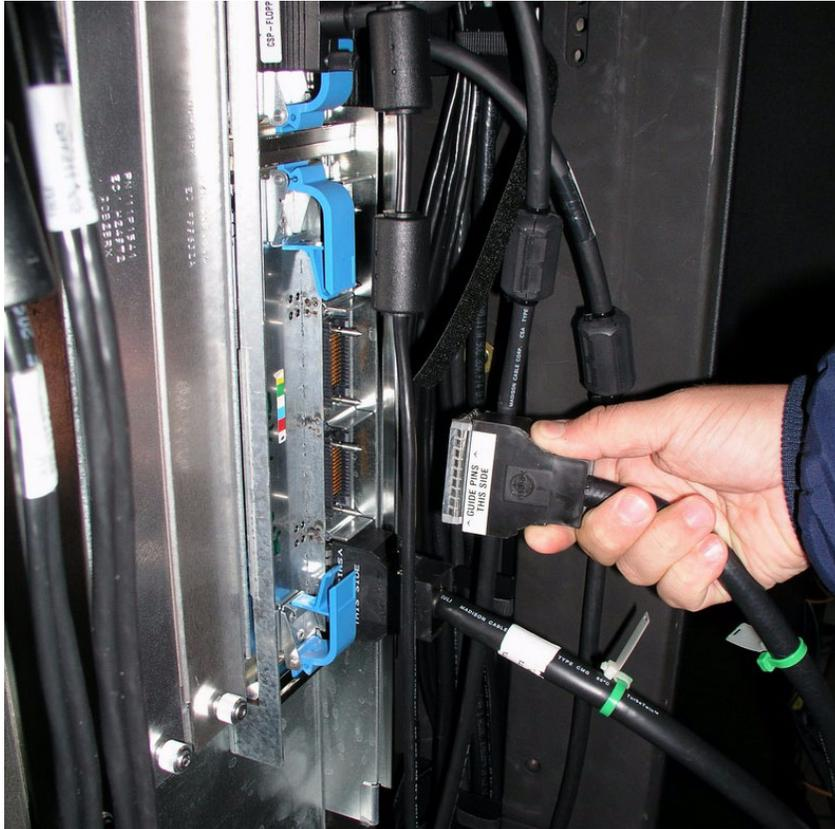

Figure 5-2 Cable fault scenario
2. Pull one of the cables from an SNI IO book, as shown in Figure 5-2 on page 194.